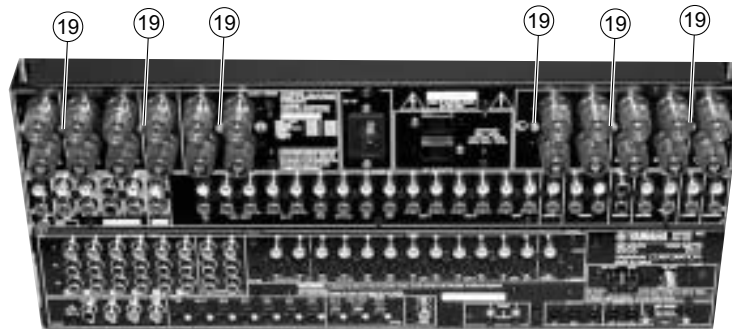
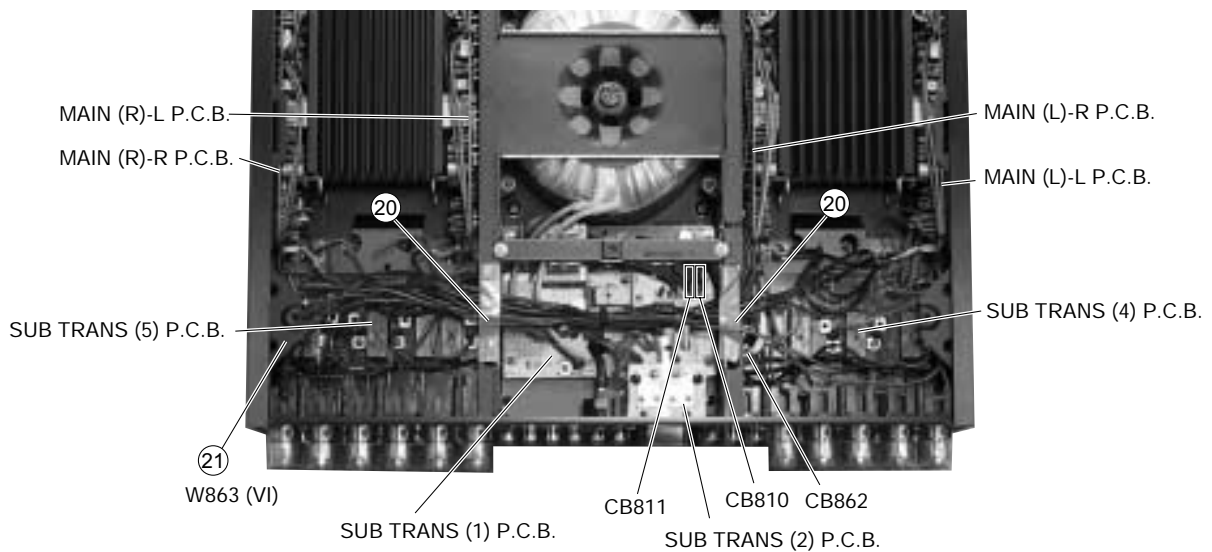

Fig. 8
Fig. 9
7. Removal of SUB TRANS (4) P.C.B. & SUB TRANS (5) P.C.B.
- c. Remove 6 screws (①⑨). (Fig. 8)
- d. Remove 2 screws (②⑩) and 1 screw (②①). (Fig. 9)
- e. Remove connectors CB862 (4P), CB810 (13P), CB811 (9P) and CB20 (13P). (Fig. 9, 10)
- f. Remove the SUB TRANS (4) P.C.B. and the SUB TRANS (5) P.C.B. (Fig. 9)
7. SUB TRANS (4) & SUB TRANS (5) P.C.B.の外し方
- c. ①⑨のネジ6本を外します。(Fig. 8)
- d. ②⑩のネジ2本と②①のネジ1本を外します。(Fig. 9)
- e. コネクターCB862 (4P)、CB810 (13P)、CB811 (9P)、CB20 (13P)を外します。(Fig. 9, 10)
- f. SUB TRANS (4) & SUB TRANS (5) P.C.B.を取り外します。(Fig. 9)